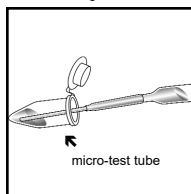

Figure 2
2. Fill the micro-test tube approximately halfway with the sample to be tested (fig. 2).
4. Holding the VACUette almost horizontally, touch the tip to the contents of the microtest tube (fig. 2).